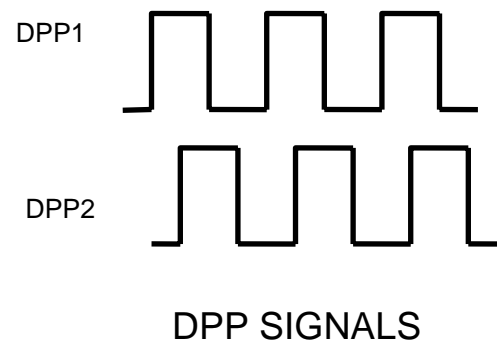

Fig 5-16
2. If an isolated oscilloscope with two channels is available, place the leads on DP1 and DP2 and move the car. Verify that the amplitude of the square waves are correct, that the signals are not distorted, and that the two signals are approximately 90° out of phase with each other. See Figure 5-16 below. (If an oscilloscope is not available, the above procedure may be bypassed.)